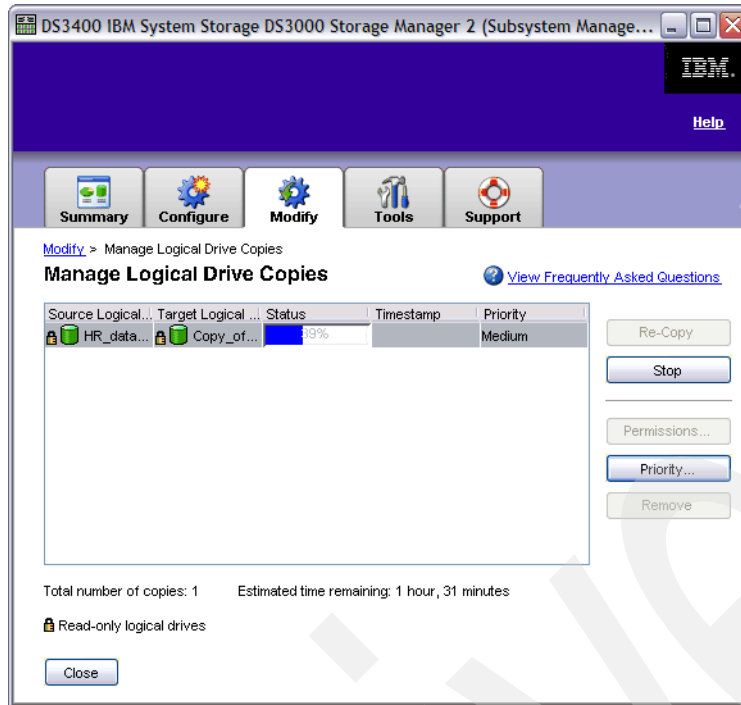
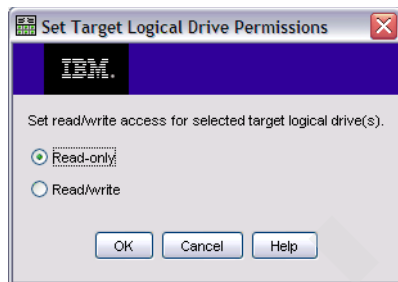

Figure 11-47 Manage Logical Drive Copies
Figure 11-51 Set Permissions
The Copy Manager window (Figure 11-47 on page 251) is used to monitor the progress of a VolumeCopy feature and perform the following tasks for all logical drive copies on the storage subsystem:
1. Select a VolumeCopy pair that you want to re-copy and click **Re-Copy**, as shown in Figure 11-47 on page 251.
1. Select a VolumeCopy pair in the window, as shown in Figure 11-47 on page 251, and click the **Permissions** button to display the Set Permissions Window (Figure 11-51).